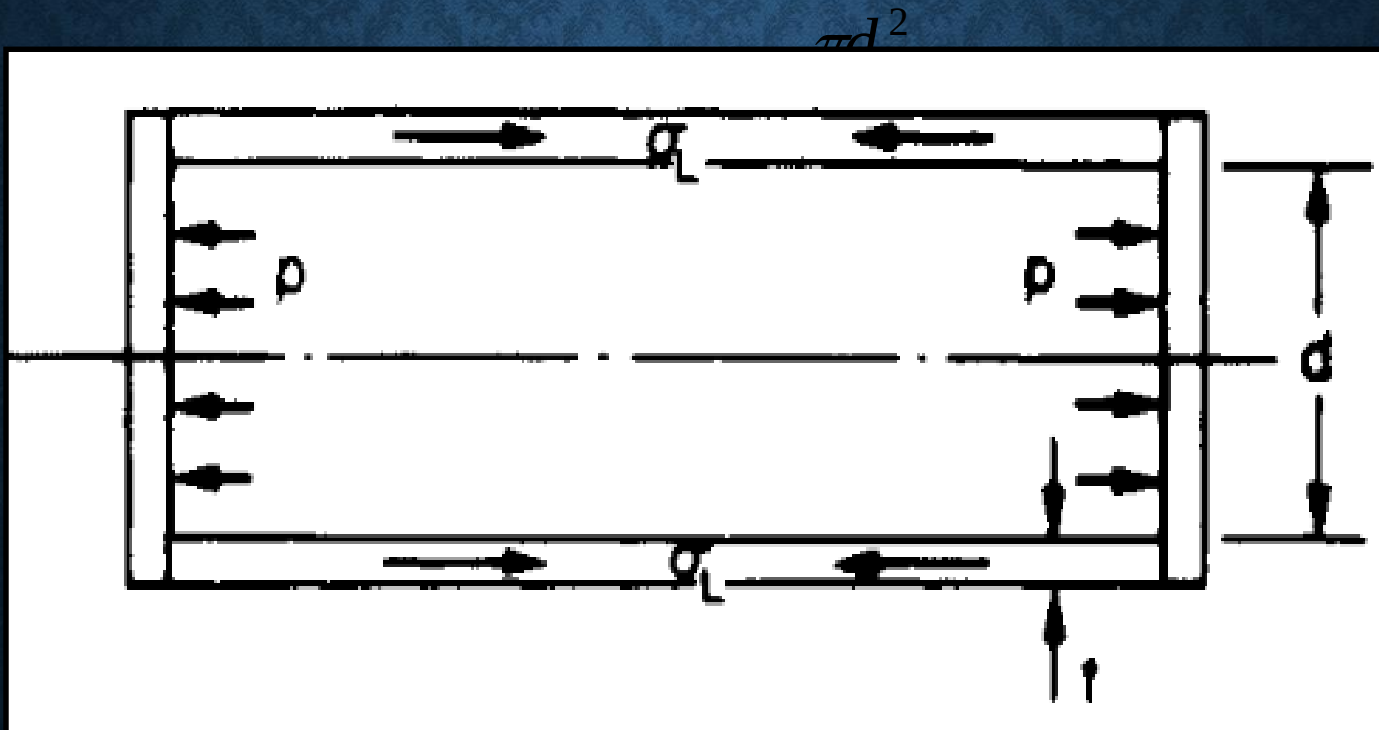

Figure 3: Cross-section of a thin cylinder
- Consider now the cylinder shown in Figure 3. Total force on the end of the cylinder owing to internal pressure